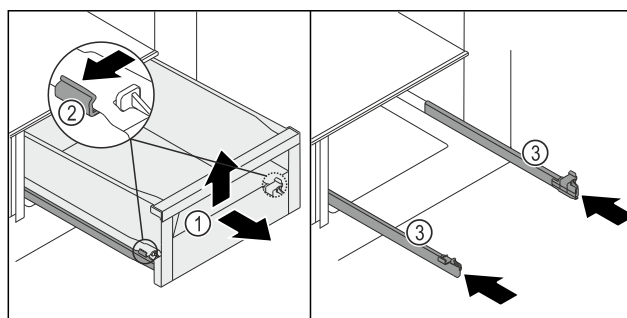

Fig. 100
- Pull the drawer Fig. 100 (1) out as far as it will go.
- Press the left and right clamps Fig. 100 (2) on the rails slightly outwards at the same time.
- Drawer Fig. 100 (1) detaches from the rails.
- Lift up the drawer Fig. 100 (1) forwards.
- Remove the drawer Fig. 100 (1) forwards.
- Push in the rails Fig. 100 (3).